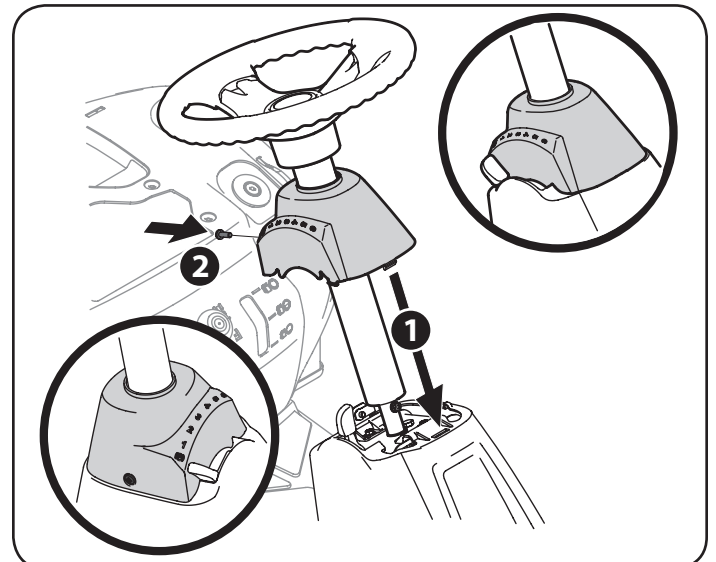

Figure 3
7. Slide the Pedestal cap down onto the tractor (1) and slightly rotate to the right to clip into place. Secure the pedestal with the screw (2) previously removed. See Figure 3.